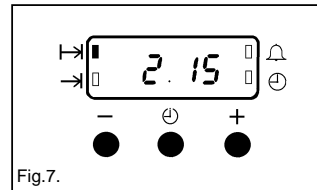

Fig.7.
- iii) To set the length of cooking time, press the Selector control button (Δ) until the 'Cook Time' indicator neon is illuminated (\rightarrow). Press the increase control (+) until the required length of cooking time is displayed, e.g. 2 hrs 15 mins as Fig. 7. If necessary depress the decrease control (-) until the correct time interval is achieved. The maximum cooking time is 10 hours.